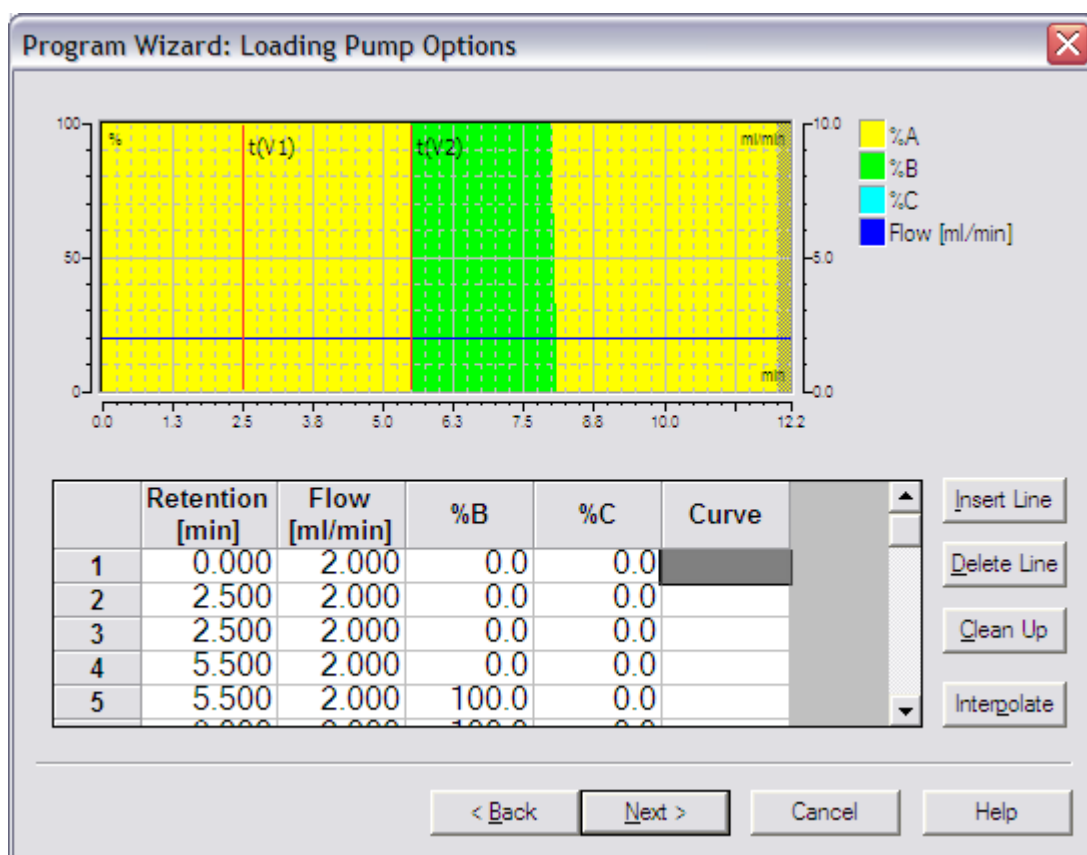

FIGURE 6-13: Program wizard – Loading Pump options.
7. After specifying the settings described above, the gradient profile for the **Loading Pump** is specified. In this example (FIGURE 6-13) the column switching times are marked as $t(V1)$ and $t(V2)$.